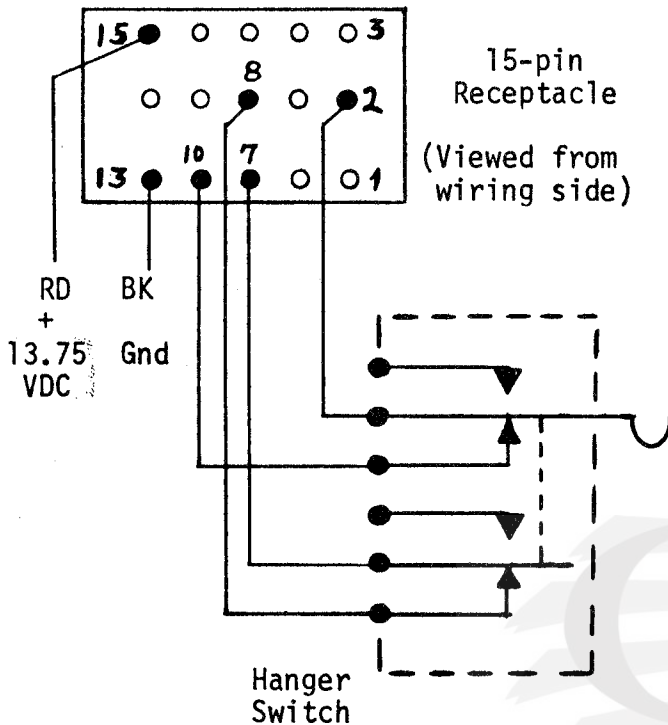

Figure 2-6. Hanger-Switch Wiring
2. Refer to Figure 2-6, and connect a 4-wire cable to hanger switch as shown.
NOTE: Figure 2-6 illustrates contact closure with handset ON hanger hook; pins 2 and 10 close speaker circuit, while pins 7 and 8 ground squelch "enable" wire.